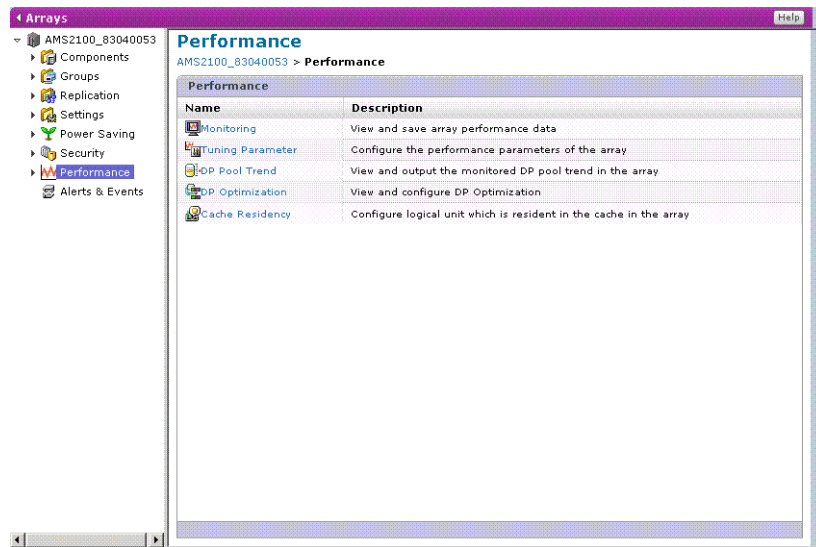

Figure 9-13: Performance window
- In the Navigation Tree, click **Performance**. SNM2 displays the Performance window as shown in Figure 9-13.